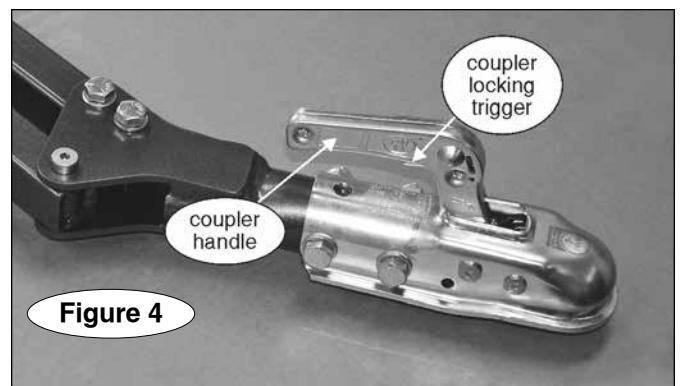

Figure 4
4. Press and hold the coupler locking trigger (Figure 4) and lift the handle (Figure 4) up.
5. Be certain the coupler is properly locked onto the ball hook – the handle must be completely lowered, as shown in Figure 4, with the coupler completely covering the ball hook, for the coupler to be locked onto the ball hook.
4. Pull back on the coupler locking trigger and lift the handle (Figure 4) to release the coupler. Lift the coupler